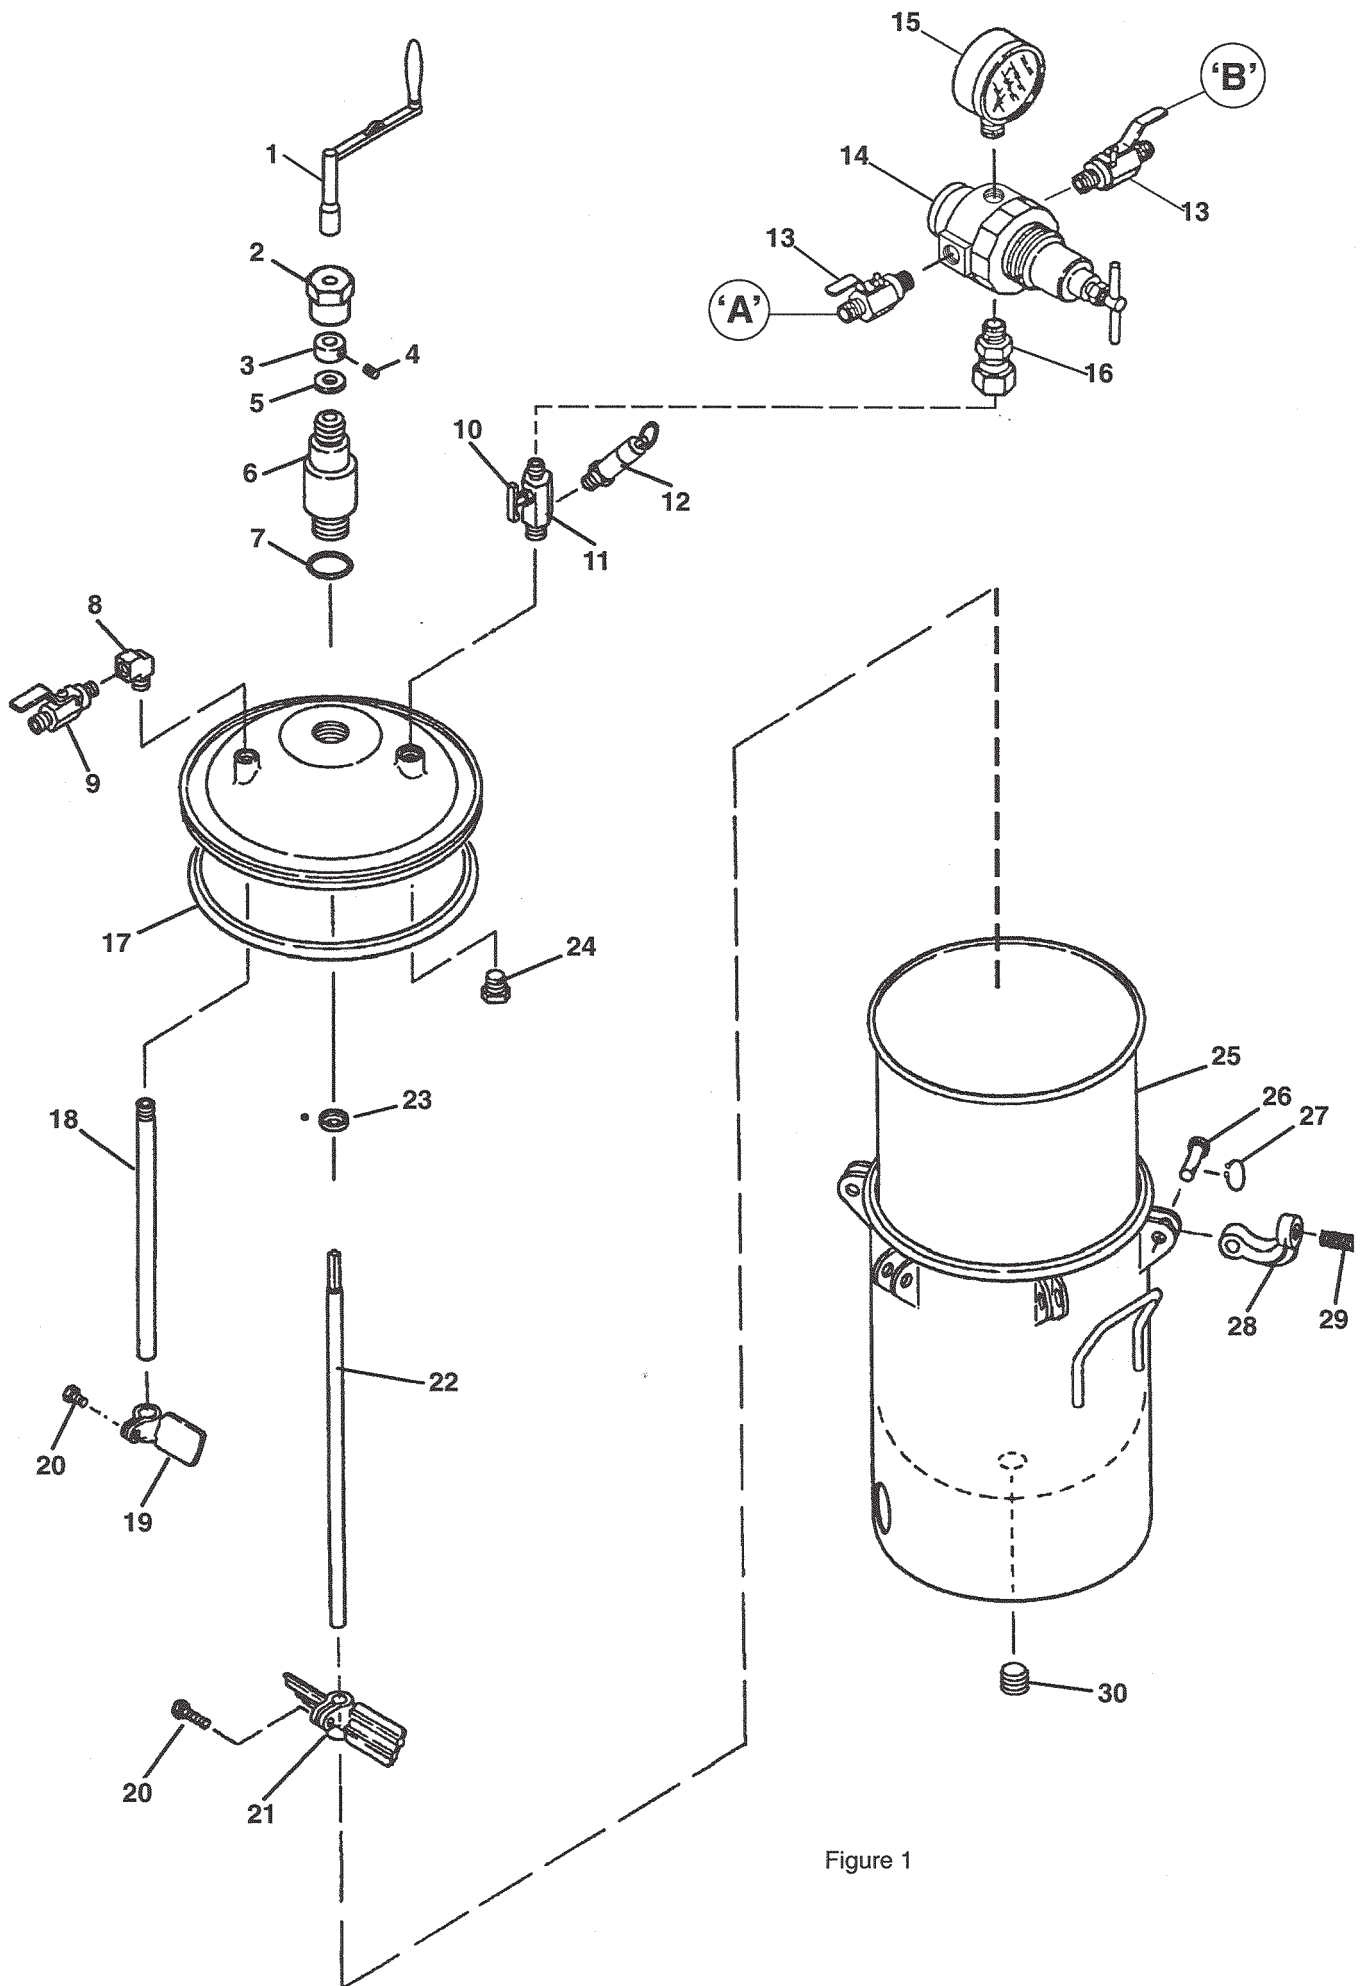

Figure 1
## REPLACEMENT OF PARTS SEE FIGURE 1
Replacing regulator (14) see figure 1. The arrows on the regulator body indicate the direction of flow through the regulator, (inlet 'outlet). Air inlet valve 'A' should be on the left when viewed from the front.